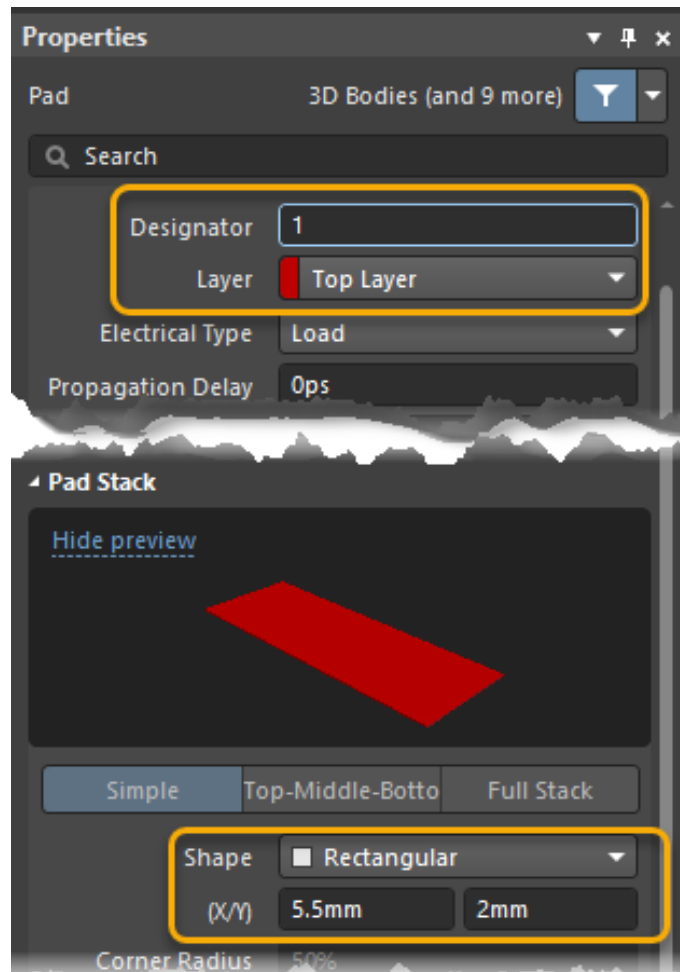

Figure 28. Pad Properties
42. Hit the **Tab** key to open its *Properties* panel before placing it. You can use Figure 28 below as a reference for the following steps:
- c) Change the (X/Y) pad dimensions to X: 5.5mm Y: 2mm. You may need to scroll down the *Properties* panel to enter the pad dimensions, as shown in Figure 28.